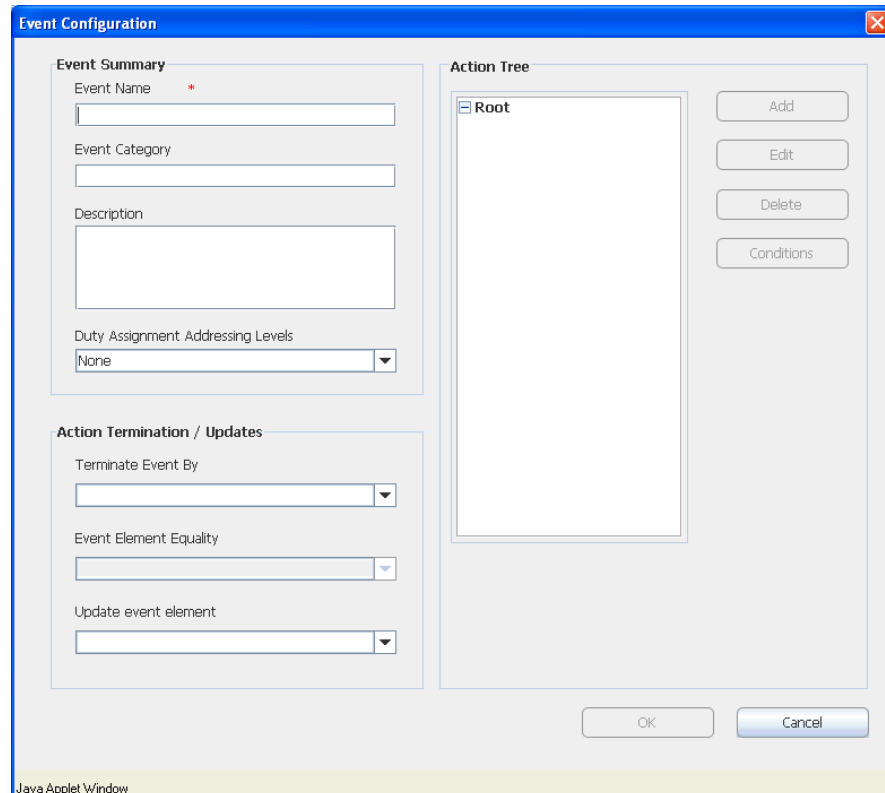

Figure 40. Event Configuration is displayed.
- 5 Enter a name of the Event, and a description, see figure 40.
- 7 Select from the drop-down list *Duty assignment addressing levels*, if Duty assignment is to be used, see figure 40. The levels are:
- 8 Mark *Root* in the *Action Tree* (figure 40), and click “Add” to configure actions for an Event.